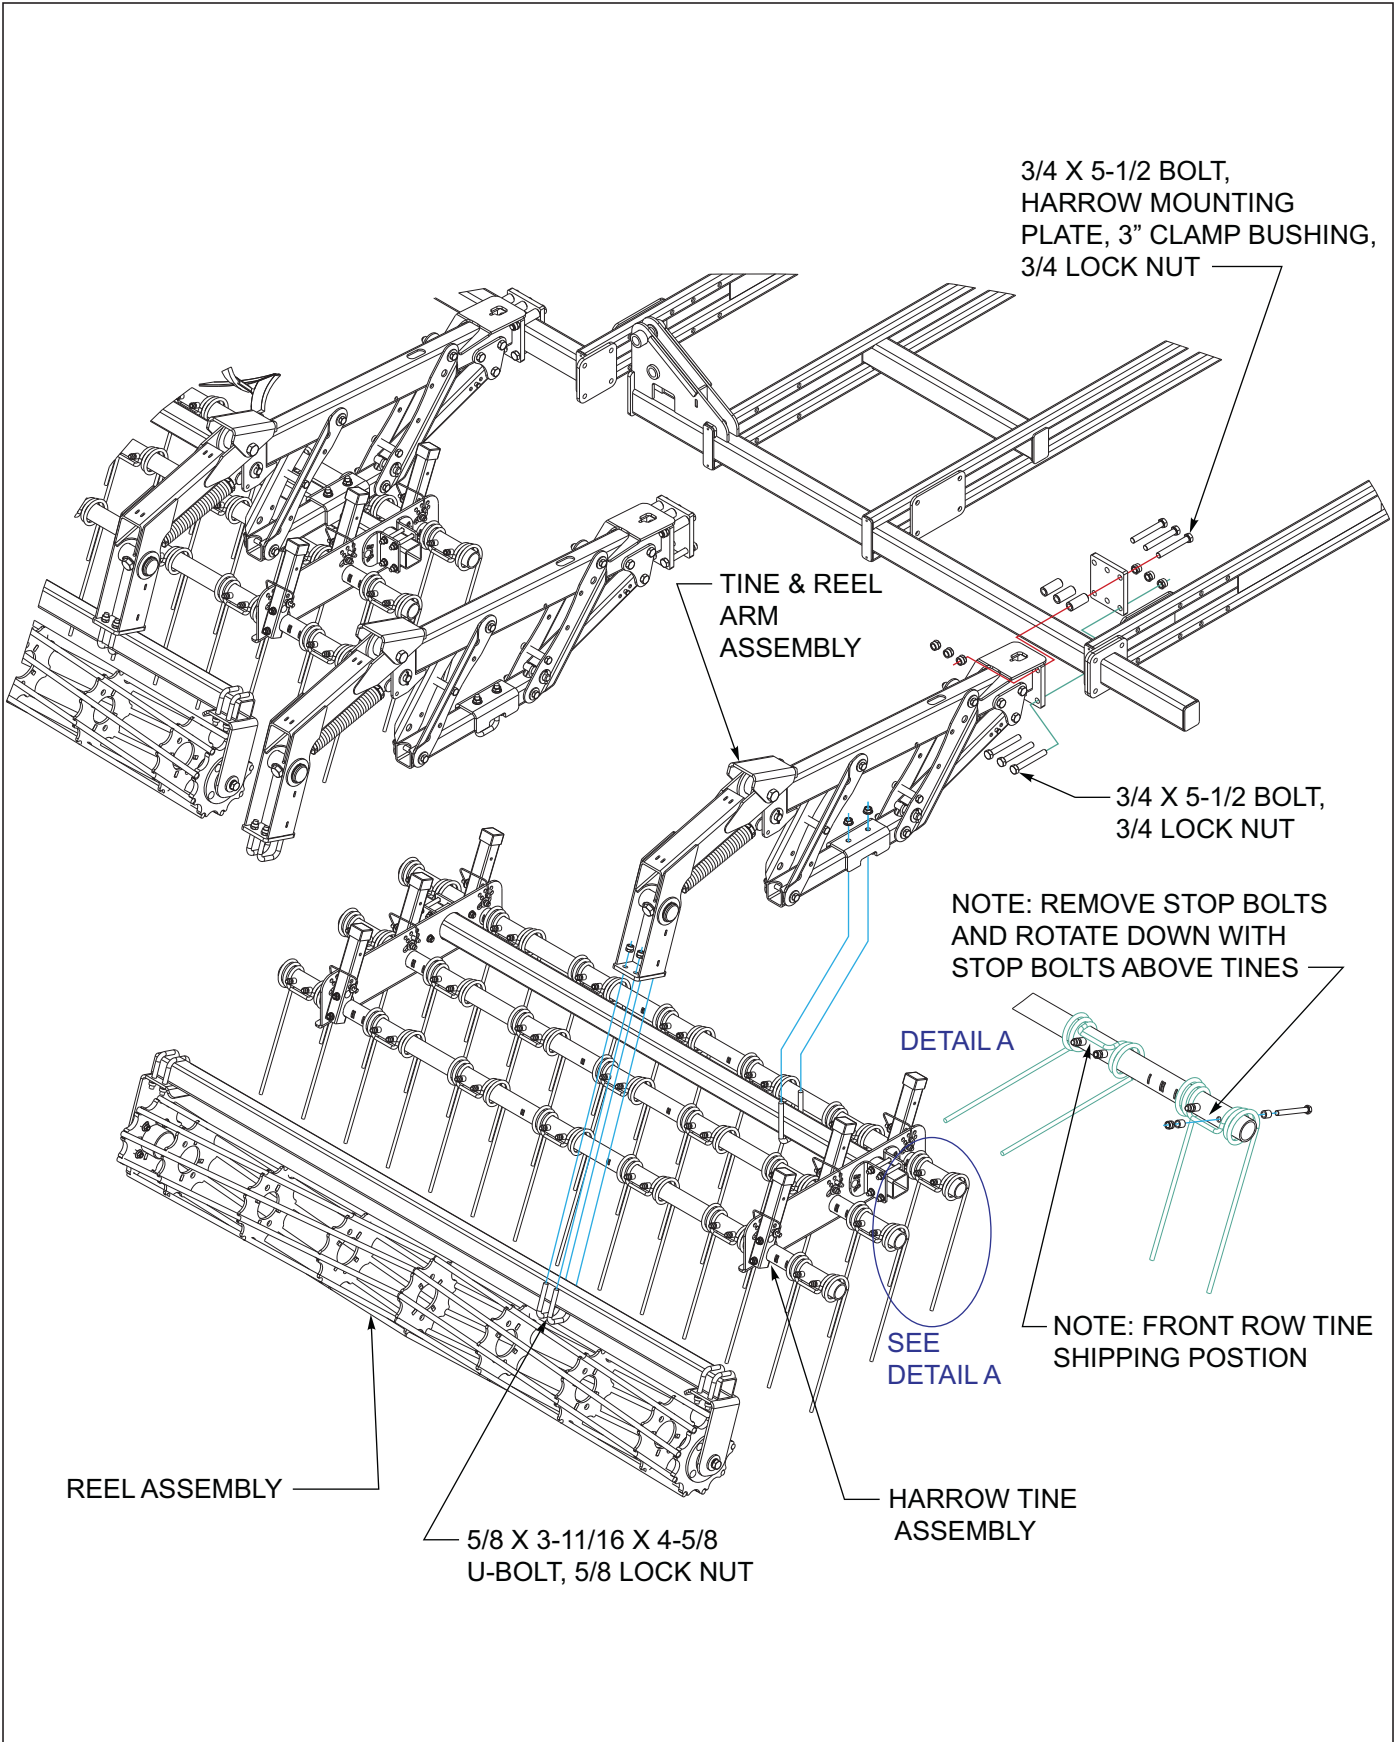

Figure 3-29: 3 Row Coil Tine and Reel Harrow Installation
1. Attach the tine/reel arm assemblies to the rear tube of the center and wing frames using harrow mounting plates, 3/4 x 5-1/2 bolts, clamp bushings and 3/4 lock nuts See Figures 3-29. Clamp bushings are installed on the top mounting bolts.